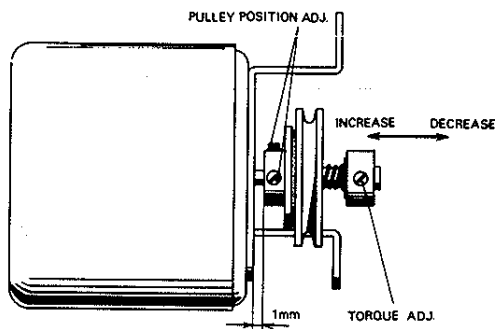

Fig. 6.2
- (2) Fast Forward and Rewind Torque should not be less than $50g\text{-cm}$.
- (3) Adjust the friction torque by adjusting location of motor friction pipe. Refer to the Fig. 6.2.